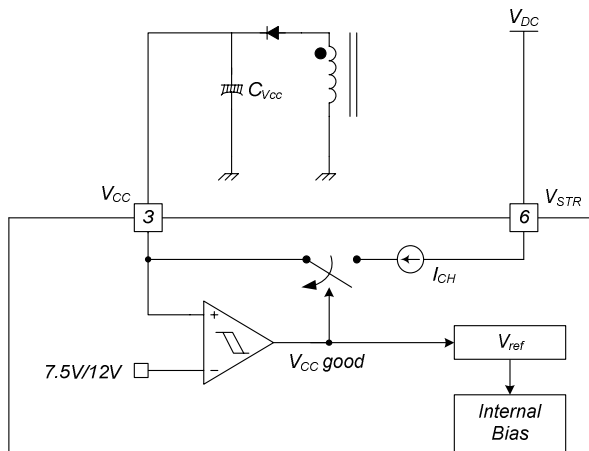

Figure 17. Startup Block
**1. Startup:** At startup, an internal high-voltage current source supplies the internal bias and charges the external capacitor ( $C_{VCC}$ ) connected to the  $V_{CC}$  pin, as illustrated in Figure 17. When  $V_{CC}$  reaches 12V, the FSGM0565R begins switching and the internal high-voltage current source is disabled. The FSGM0565R continues normal switching operation and the power is supplied from the auxiliary transformer winding unless  $V_{CC}$  goes below the stop voltage of 7.5V.